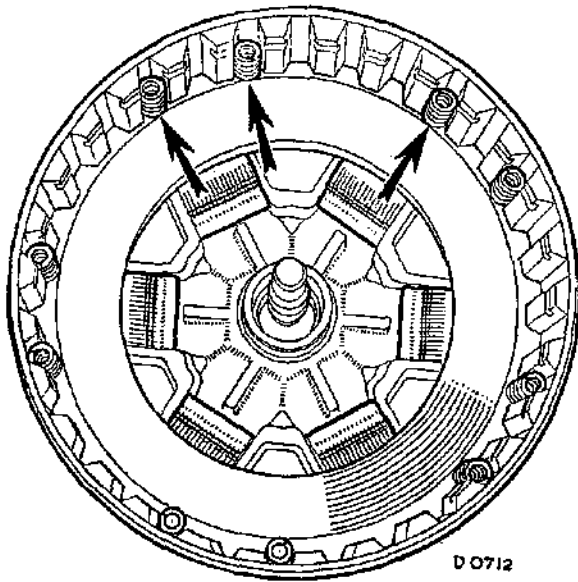

Fig. Fa.36
- (11) 30-tooth clutch. Assemble the toggles, pressure plate, and the piston return springs as shown in Fig. Fa.36. Refit the clutch plates and the retainer plate (see Fig. Fa.35).